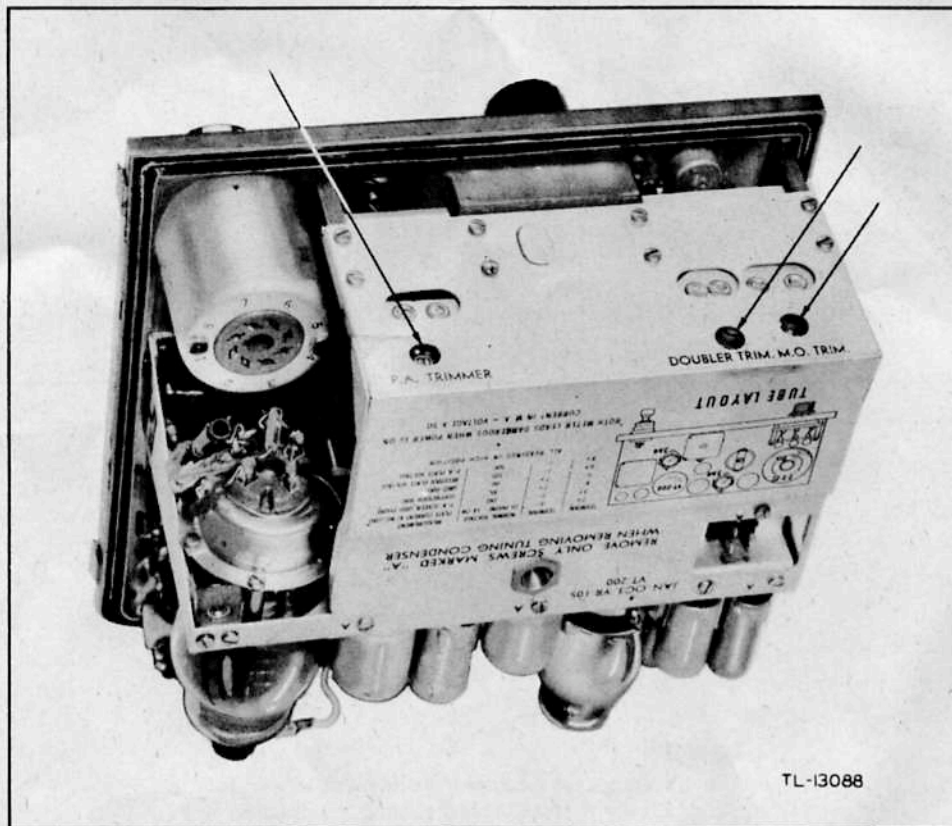

Figure 38. Transmitter alignment points.
i. Press the microphone button and listen in the phones connected to the frequency meter for the signal from the transmitter. Adjust the master-oscillator (M.O.) trimmer (fig. 38) to exact zero beat. If the 200-kc crystal in the receiver is used instead of the frequency meter, proceed as instructed in paragraph 30.
k. Adjust the doubler trimmer (fig. 38) for maximum output indication on the meter.
m. Adjust the power amplifier (P.A.) trimmer (fig. 38) for minimum indication on the meter.